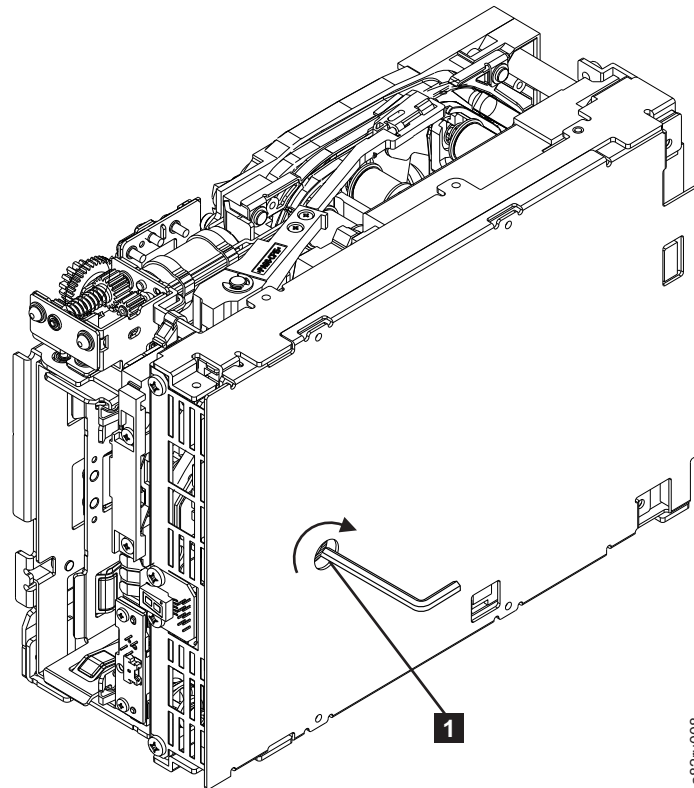

Figure E-9. Using hex wrench to rewind tape into cartridge
6. From the bottom of the drive, locate the access hole (**1** in Figure E-9) in the bottom cover. Insert a 2.5 mm offset hex wrench through the bottom cover access hole and into the reel motor axle. begin spooling tape back into the cartridge by turning the hex wrench clockwise.